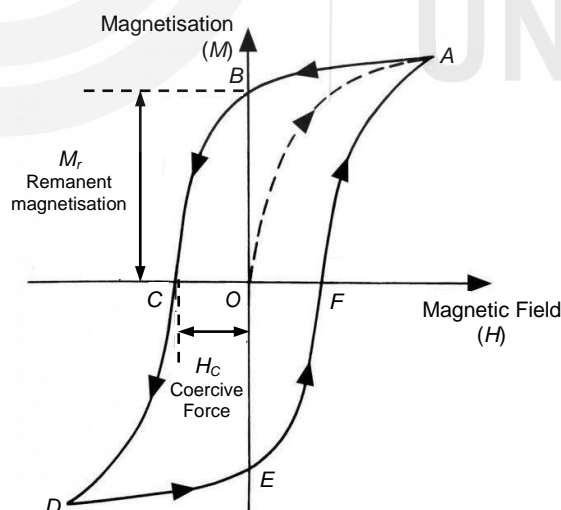

Fig. 2.2: M - H Curve.
Now you know that in its normal state, even a ferromagnetic substance is unmagnetised; and to magnetise it, we need an external magnetic field. In your school physics course, you must have learnt some techniques of magnetising a ferromagnetic substance. We can easily magnetise an iron bar by placing it inside a solenoid and passing an electric current through the solenoid. As the current through the solenoid is gradually increased, the magnetisation (M) of the specimen (iron rod) increases, until it reaches a saturation value. This is illustrated in Fig. 2.2. You will note that initially the magnetisation increases slowly but as the current, and hence the field, is increased, it grows more rapidly and reaches saturation ultimately. In Fig. 2.2, the saturation is indicated by point A. If the field is now reduced by gradually decreasing the current through the solenoid, M does not retrace the original path (curve OA). Instead it follows the curve AB, as shown in the figure. You may be surprised to know that even when the current, and hence magnetic field in the solenoid, is reduced to zero, some magnetisation survives in the specimen. (That is, the ferromagnetic material remembers the past.) In Fig. 2.2 it is shown by OB. This value of M is known as **remanent magnetisation**, denoted by M_r .
You may be tempted to think that once a specimen is magnetised, it is not possible to demagnetise it. It is not so. We can destroy the magnetisation completely, if we have an opposing field. All that we have to do is to reverse the direction of the current in the solenoid and increase it gradually. In Fig. 2.2, OC is a measure of the reverse field required to wipe out magnetism in a ferromagnetic specimen that has been magnetised to saturation. This is called the **coercivity** of the specimen. This value of magnetic field (for $M = 0$) is called the **coercive force** of the specimen, which is denoted by H_c .
You may note from Fig. 2.2 that magnetisation in the specimen does not keep step with the magnetising field. Instead, magnetisation tends to persist, i.e., lags behind the magnetising field which produces it. This phenomenon is called **hysteresis** (to lag behind). The loop *ABCDEFA* is called the **hysteresis loop**. The area of the loop is a measure of the loss of energy in the specimen per cycle of operation.